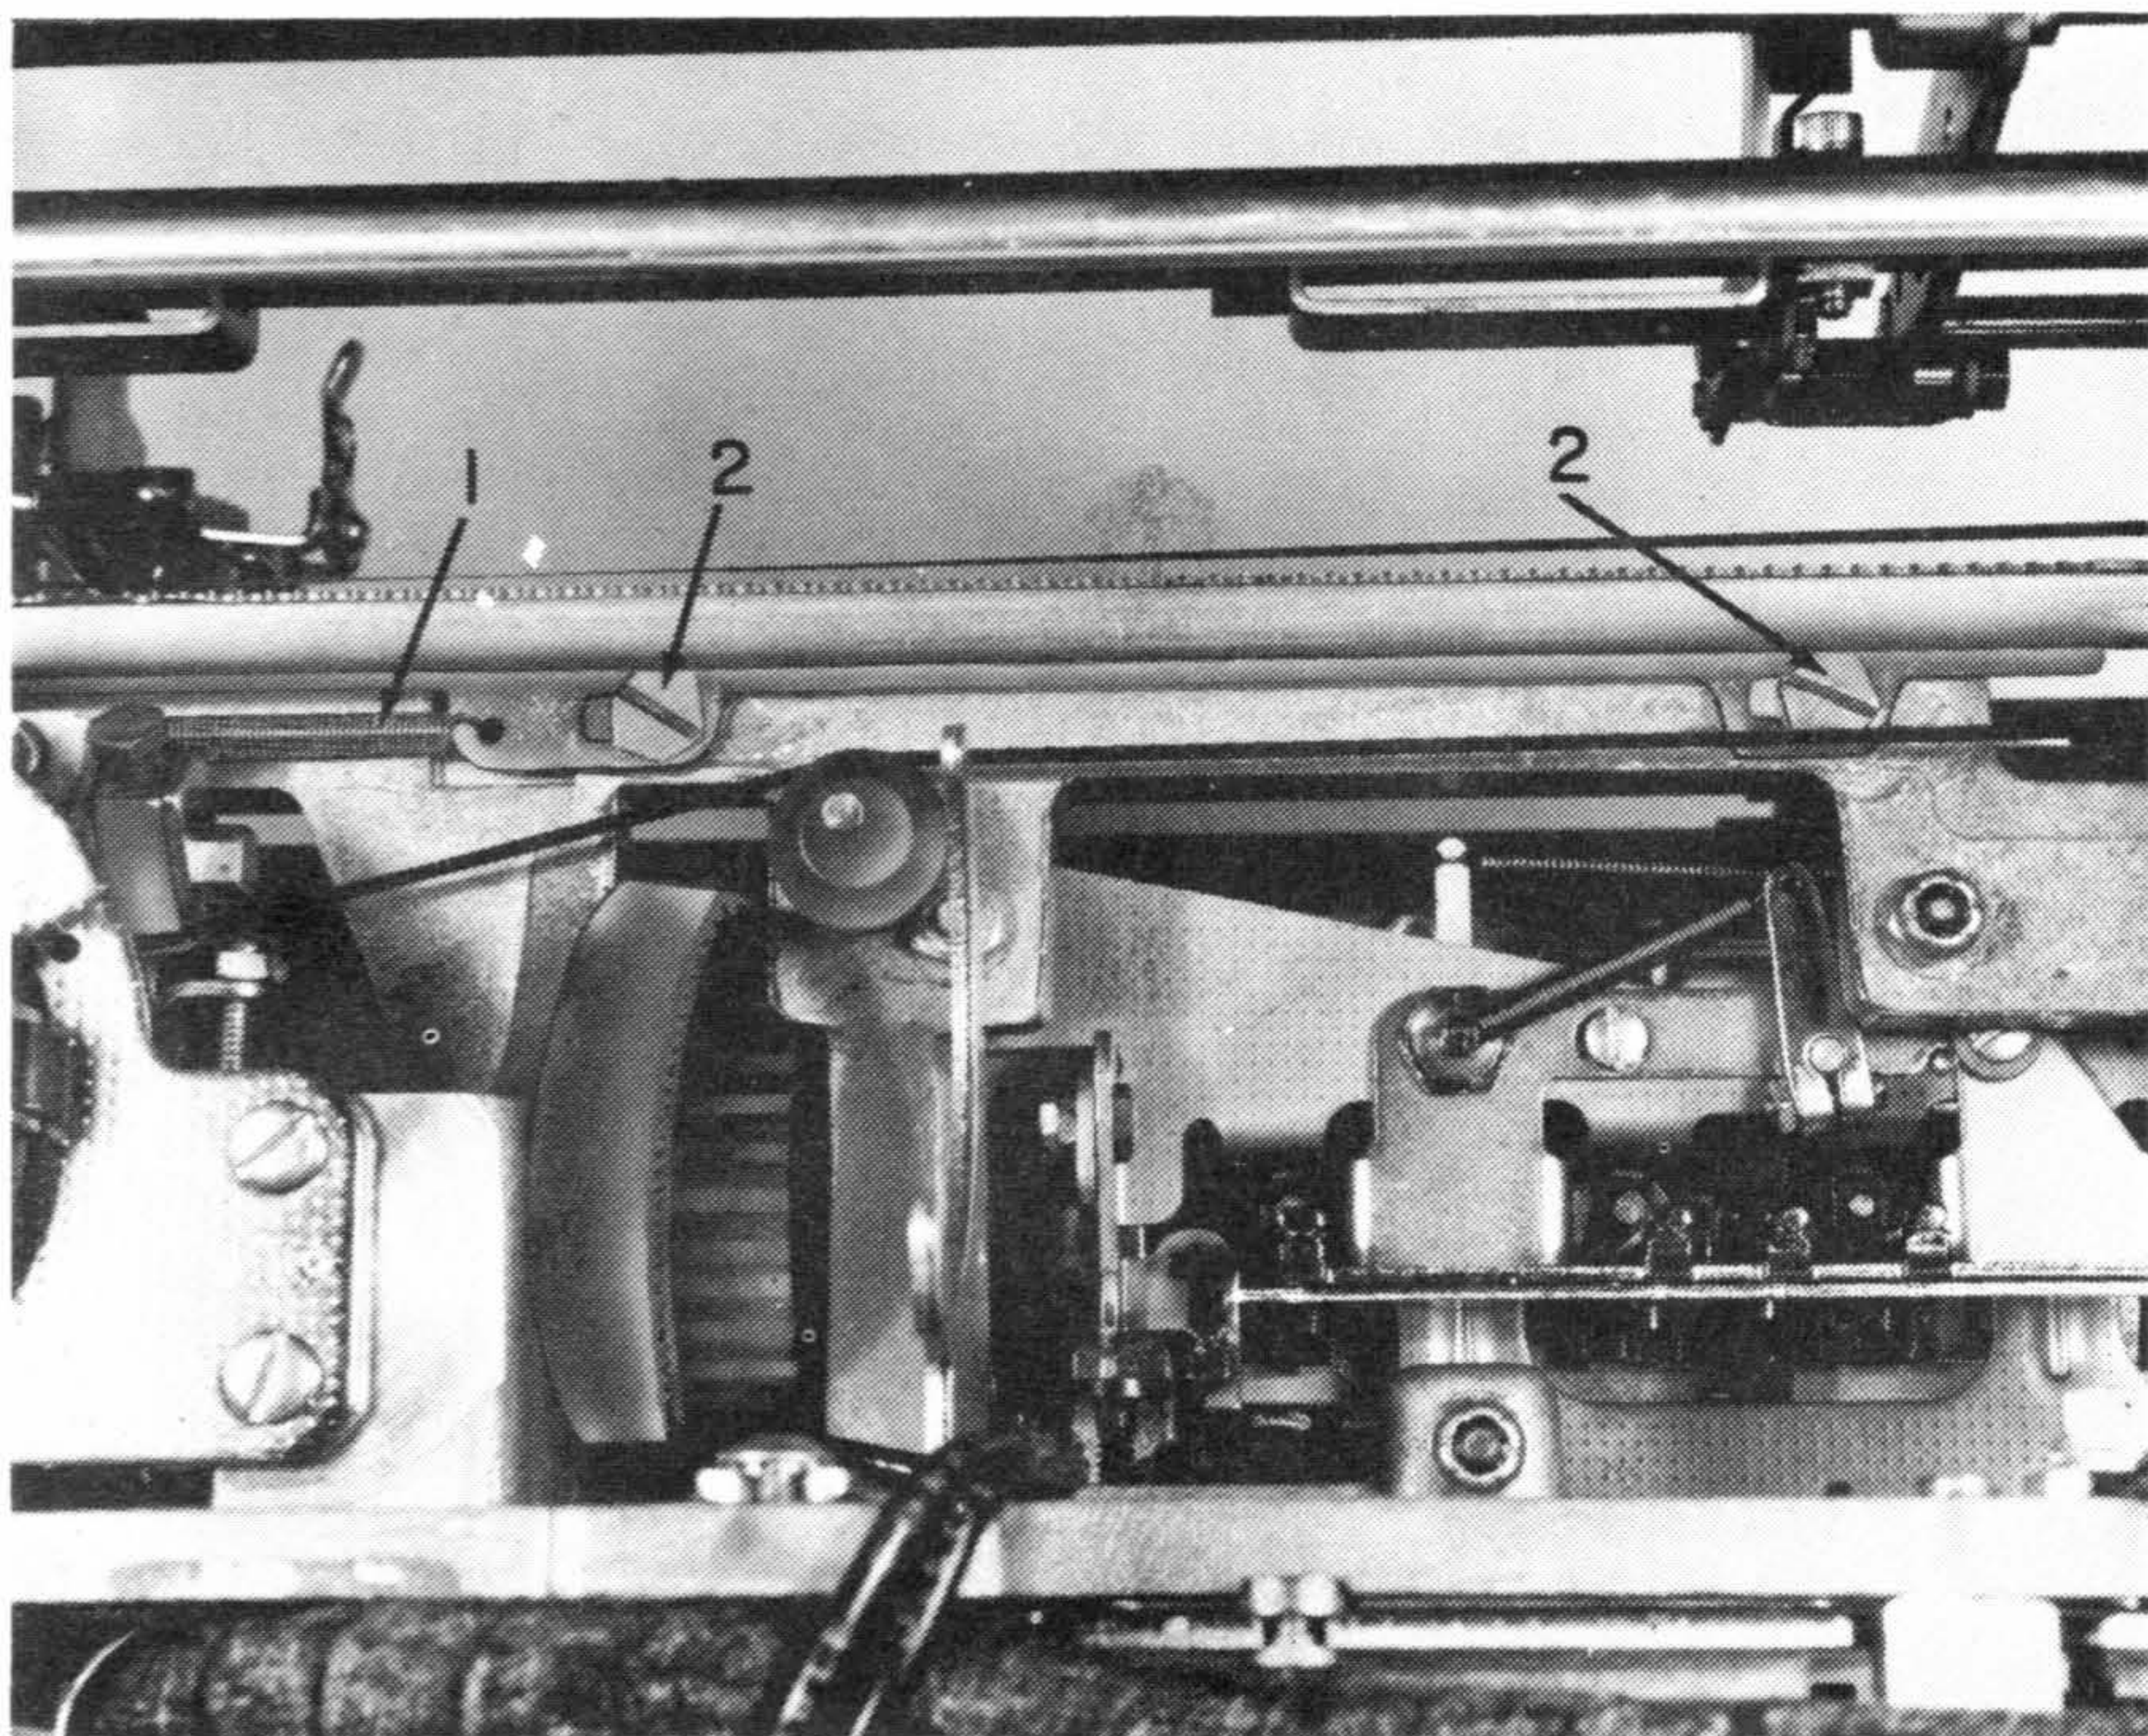

Figure 40. Backspace Rack Removal
2. Remove the backspace-rack spring (#1, Figure 40).
3. Remove the three backspace-rack mounting studs (#2, Figure 40), one of which is not shown, and remove the rack.